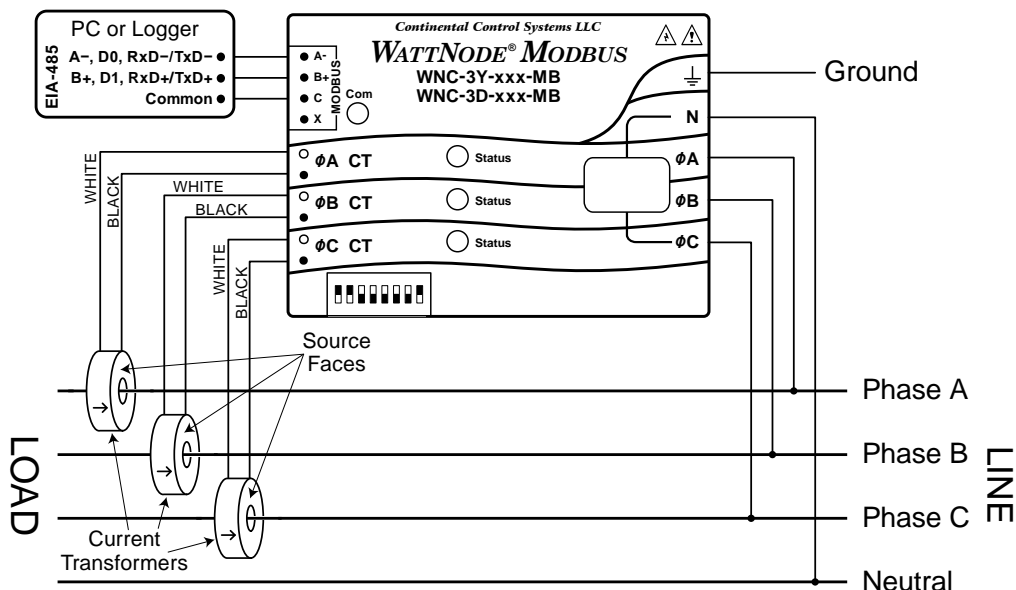

Figure 1: WattNode Wiring Diagram
**Figure 1** above shows the connections for a three-phase wye circuit. Other circuit types are similar, but with fewer connections (no neutral for delta, no phase C for single-phase three-wire 120V/240V). See the full manual for more diagrams.
To install the CTs, pass the conductor to be measured through the CT and connect the CT leads to the meter. **Always remove power before disconnecting any live wires.** Put the line conductors through the CTs as shown in **Figure 1** above.
The screw terminals handle wire up to 12 AWG. Prepare the voltage wires by stripping the wires to expose 1/4" (6 mm) of bare wire. Connect each voltage line to the green terminal block as shown in **Figure 1** above. Verify that the line voltage phases match the CT phases. After the voltage lines have been connected, make sure both terminal blocks are securely installed on the meter.